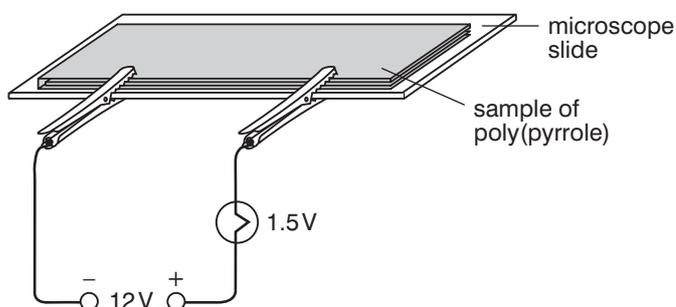

Figure 2 Testing the conductivity of poly(pyrrole)
- Use crocodile clips and wires to connect the polymer film into the circuit shown in Figure 2.